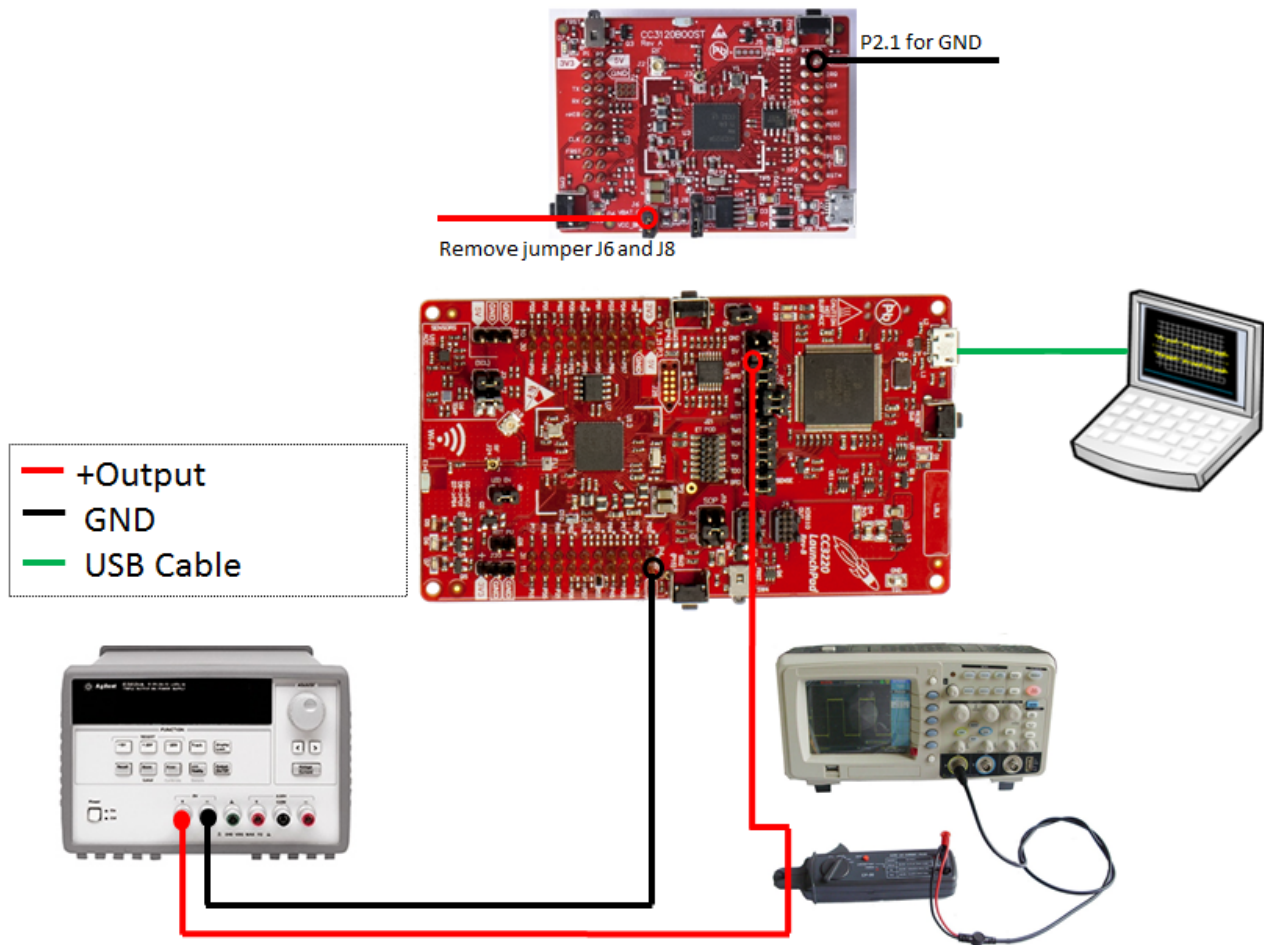

Figure 17. Oscilloscope With Current Probe Test Setup
4. Execute the code and measure the current using the oscilloscope. For reference, Figure 17 shows the full overview.